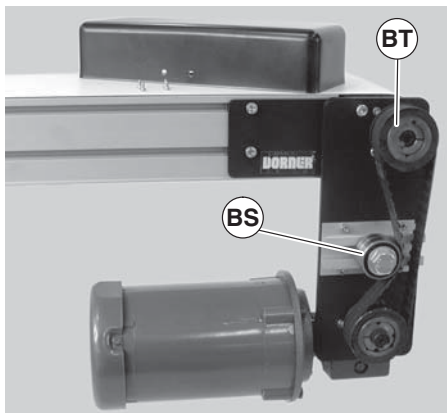
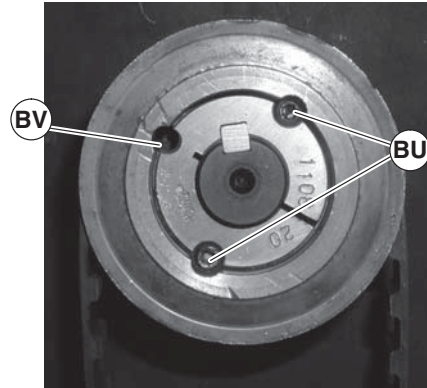

Figure 61
Figure 62
- c. Loosen tensioner (Figure 61, item BS).
- d. Remove taper-lock screws (Figure 62, item BU) on the driven pulley (Figure 61, item BT). Insert one (1) of taper lock screws (Figure 62, item BU) in remaining hole (BV). Tighten screw (BU) until pulley is loose. Remove pulley, taper hub assembly and timing belt.